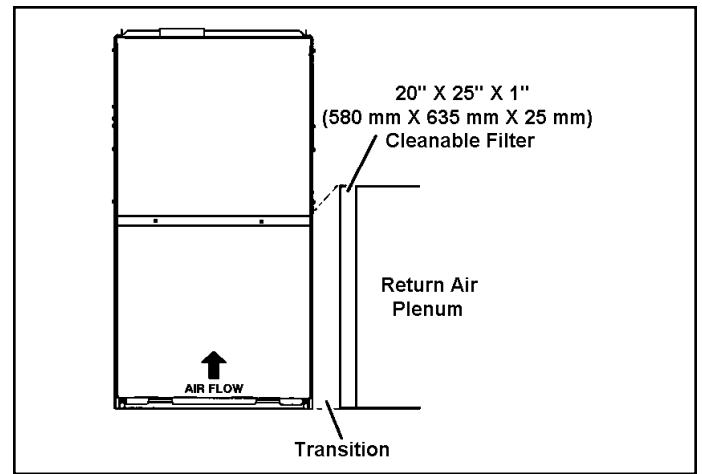

Figure 9. Single Side Return Air (with transition and filter)
1. Single side return air with transition to accommodate 20 x 25 x 1 in. (508 x 635 x 25 mm) cleanable air filter. (Required to maintain proper air velocity.) See Figure 9.